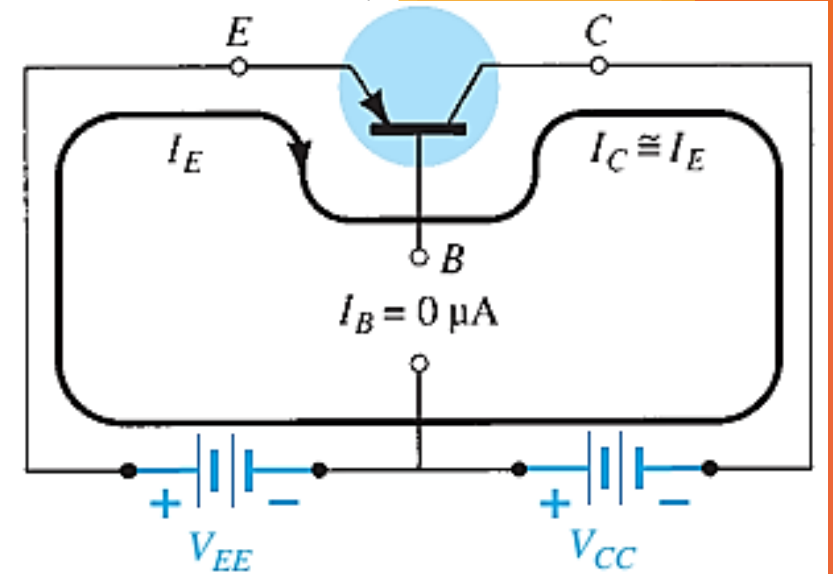

FIG. 3.11
- ▶ The result is the configuration of Fig. 3.11 for the pnp transistor.